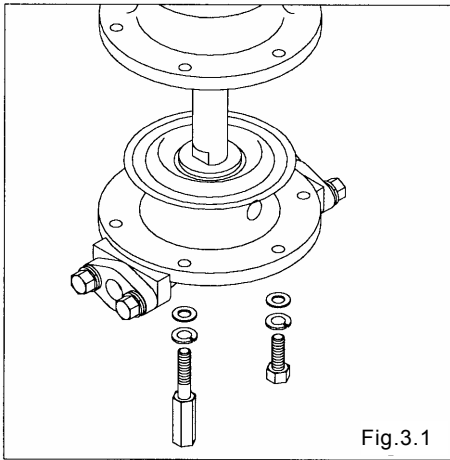

Fig.3.1
- Remove 6 out chamber mounting bolts and studs respectively, and remove the out chamber. (AD-10, AD-25) [Fig.3.1]
- Remove the 8 out chamber locking bolts, studs and nuts respectively, and remove the out chamber. (AD-40, AD-50) [Fig.3.1]